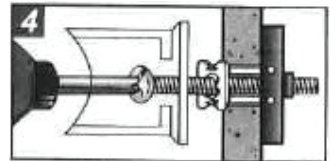

Figure 4.3.4
4.3.4 Place spacer over flange. Insert bolt and tighten until snug against cab wall and then stop. (Use only 1/4" -20 bolt (be conscience of cab wall to shaft wall clearances for any excess bolt length.) **Figure 4.3.4**